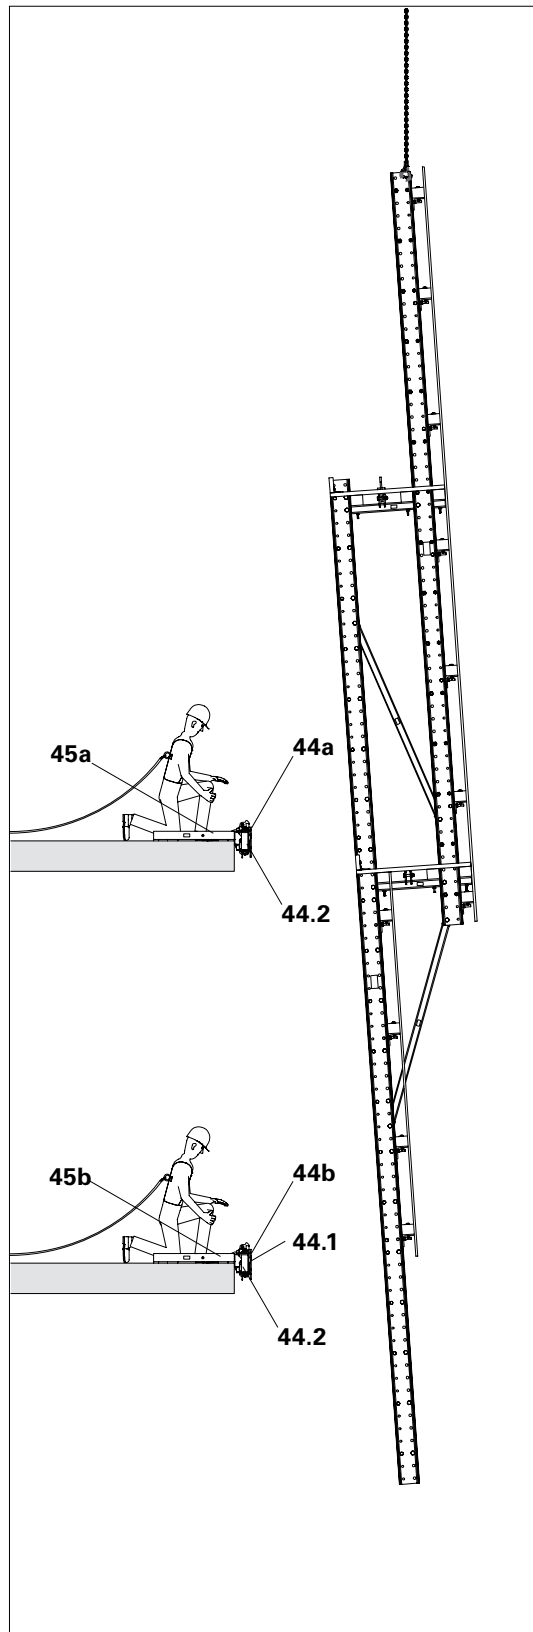

Fig. C4.03
5. Activate the climbing pawl of the top Climbing Shoe. See Section "Activating and Deactivating the Climbing Pawl" on Page 122 (Fig. C4.03).